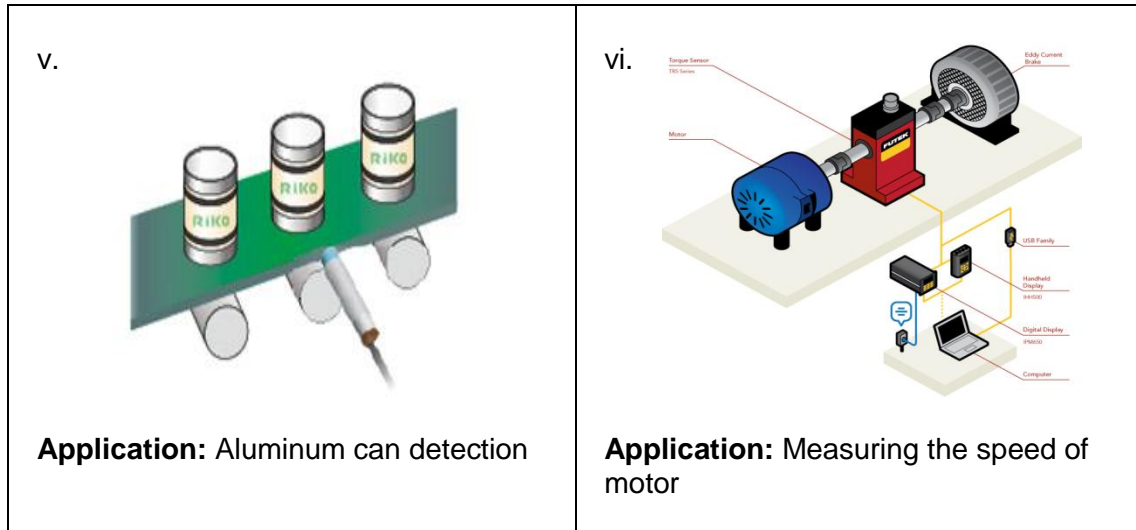

Figure 1: Sensor applications
- (a) Describe **three (3)** types of signal that associated in automatic control system. (3 marks)
- (c) Suggest the most suitable sensor for each application in **Figure 1**. (6 marks)